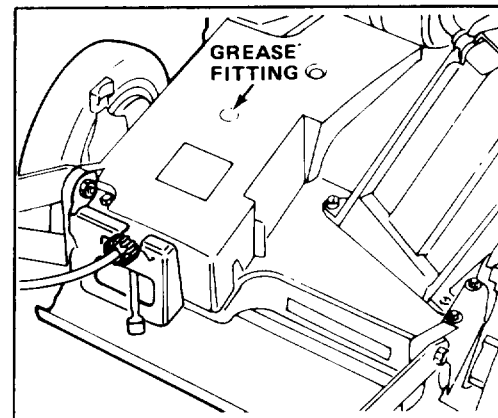

Figure 24
2. Install grease gun onto fitting through belt cover opening (Fig. 24). Gently apply 1-2 pumps of grease.